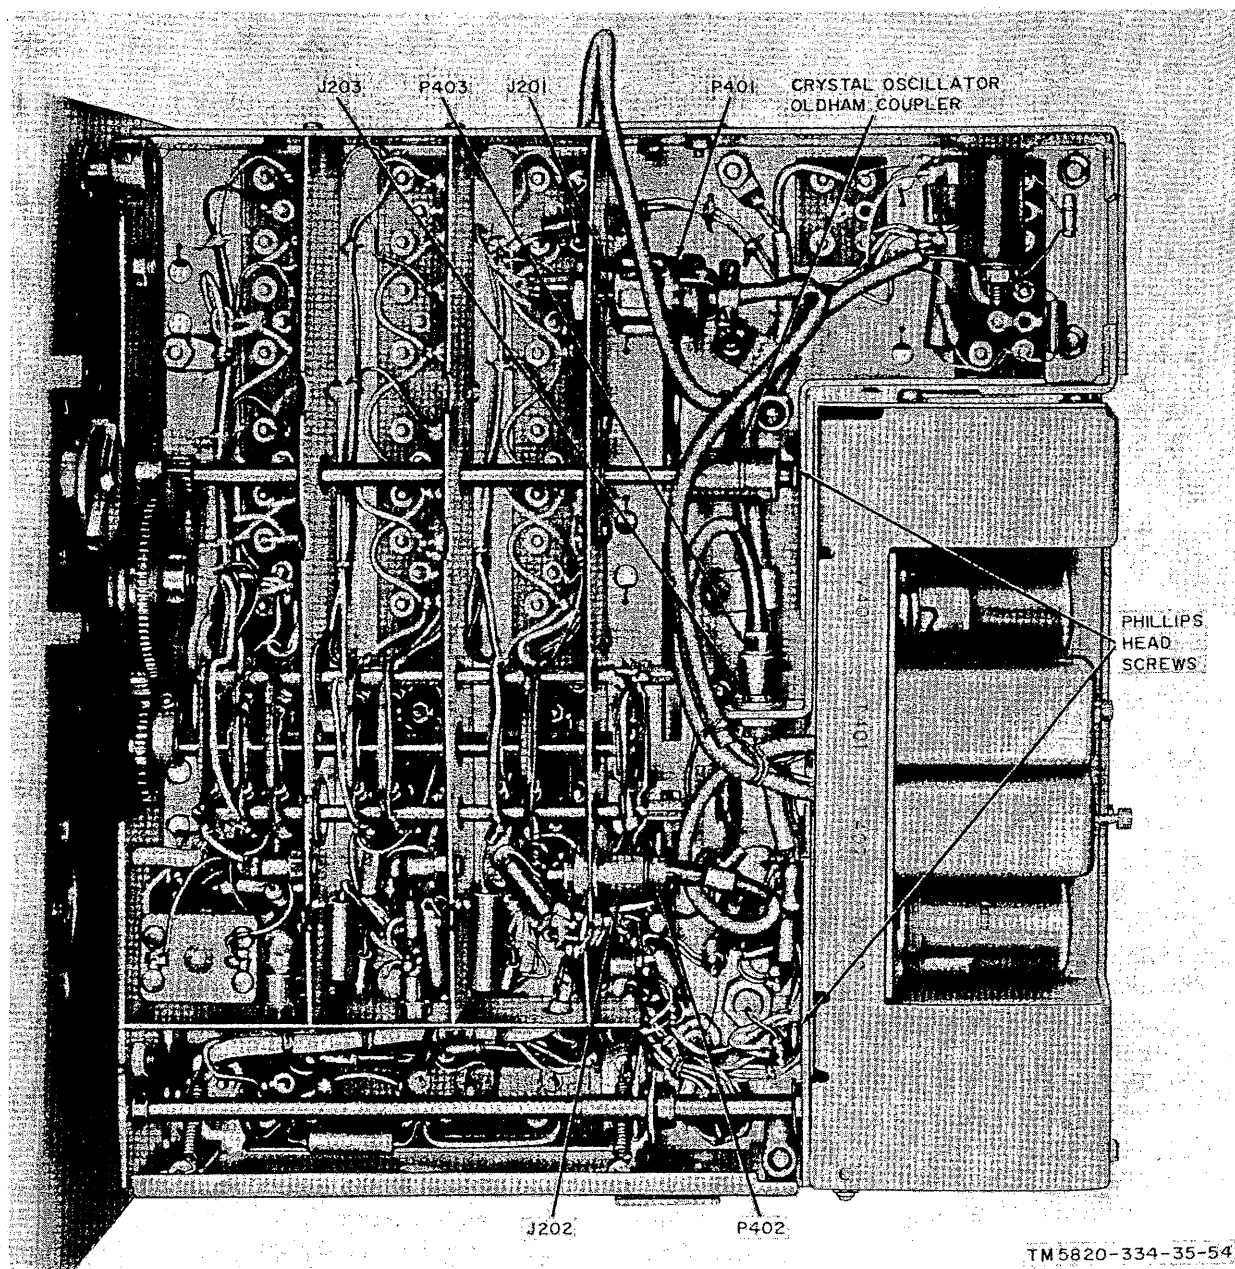

Figure 57. Upper deck assembly and crystal oscillator subchassis, bottom view.
- (13) Synchronize the vfo tuning shaft as described in paragraph 79.
65. Crystal Oscillator Subchassis (fig. 57)
- (1) Place clutch assembly 0342 and bevel and spur gear 0336 on their shafts. Load the split gear of 0342 two teeth and mesh with the spur gear of 0336.
- (2) Replace the retaining ring on the clutch assembly shaft.
- (3) Load gear 0329 (fig. 57) two teeth and replace the kilocycle disk and gear 0329 on shaft 0331; mesh gear 0329 with the brass gear of clutch assembly 0342.
- (4) Tighten the clamp screw below gear 0329.
- (5) Replace frequency indicator M201 (b above).